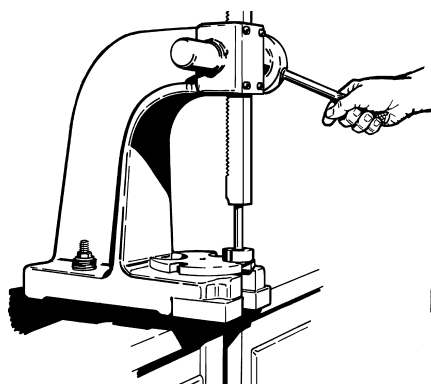

Figure 4-21
6. Using the arbor press remove the two (2) bearings from the shaft. Refer to Figure 4-21. If the inner race is well supported during this operation, no damage